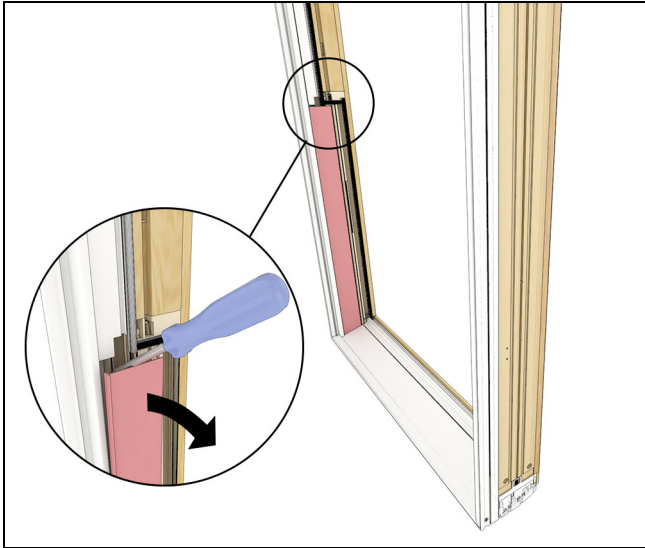

Figure 50
1. Remove exterior single hung covers with flat screw driver. See Figure 50.